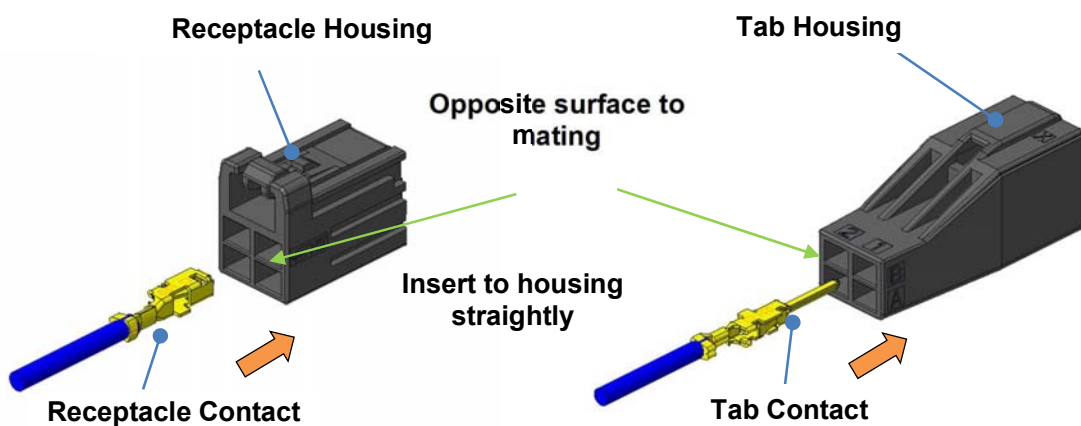

Figure.6 Contact Insertion
- ③ Insert crimped contact to housing. (Refer to Figure.6)